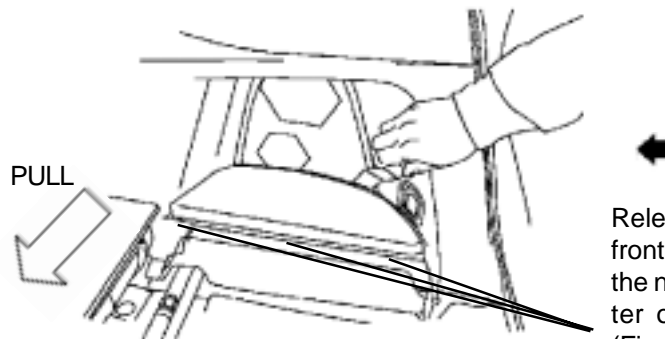

Figure 17.
- 1.) Using a nylon pry-tool, carefully remove the carpeted trim piece located under the vehicle's rear passenger side speaker (Figure 17.).
Release the three tabs located under the front edge of the carpeted trim piece using the nylon pry tool and pull towards the center of the vehicle (DO NOT PULL UP) (Figure 17.).